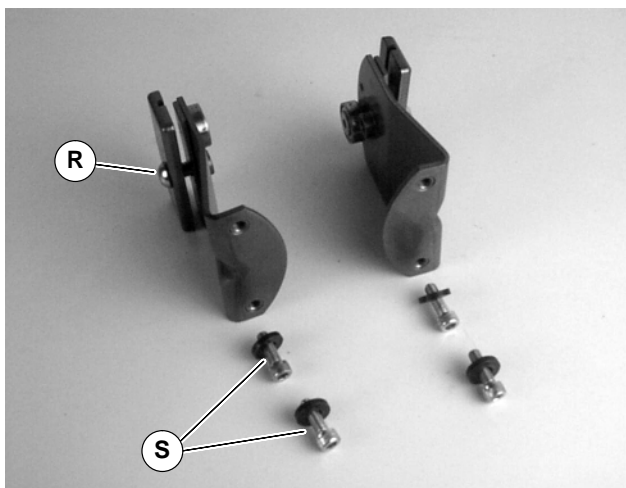

Figure 22
2. Loosen, do not remove, bracket screws (R of Figure 22). Remove mounting screws and washers (S).